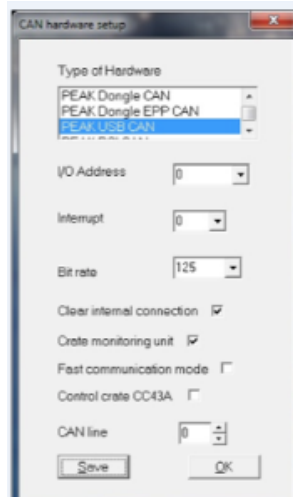

Figure 13b. iSEG Hardware Setup and Main screen
2. Start the iSEG High-Voltage Control software using the desktop icon (Figure 13a) to open the iSEG Main windows (Figures 13b and 13c). This program controls the high-voltage power supply for the plastic scintillator PMTs through the iSEG power supply.
3. On **CAN hardware setup** window (Figure 13b):
6. Repeat steps 2 to 4. Click the **iSEG High-Voltage Control** icon (Figure 13a) to open the **Main** windows (Figure 13b and 13 c).
7. Launch the **iSEG control** software at the NGR computer (*Figure 13a*), to open the **iSEG Main** windows (*Figures 13b and 13c*).
8. On **CAN hardware setup** window (*Figure 13b*):